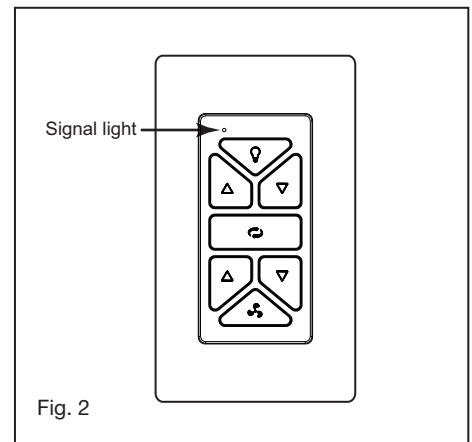

Fig. 2
2. Make wire connections from the fan to the receiver unit. For this step use the bundle of 5 wires on the receiver. (Fig. 2)
- 4 Remove one of the three screws on the adapter plate located on the fan motor. Loosen the other 2 screws. (Do not remove) (Fig. 2)
- 5 While holding the LED assembly under your fan, make the polarized plug connections: (Fig. 2)
- 2 Seat the cradle A into the wall plate. (Fig. 2)
- 6 Signal light (Fig. 2)